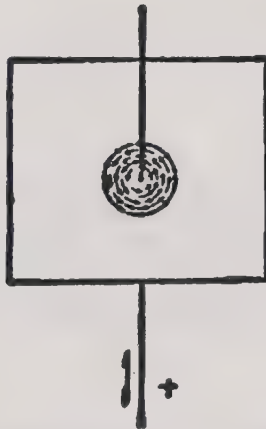

Fig. 89. Magnetic Field due to Electric Current.
*Answer.* Yes. Pass a straight wire carrying a large current through the center of a sheet of cardboard as shown in Fig. 89. If iron filings are sprinkled on the board they will arrange themselves in circles around the wire, thus showing the magnetic field.